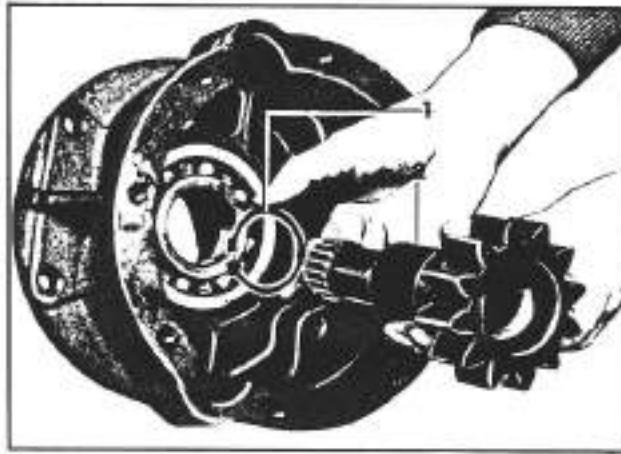

Fig. 3-61. Removal of the reduction gear shaft
- b. Take off the retaining ring (1; fig. 3-61), located on the opposite side of the bearing, and take out the reduction gear shaft (2; fig. 3-61).